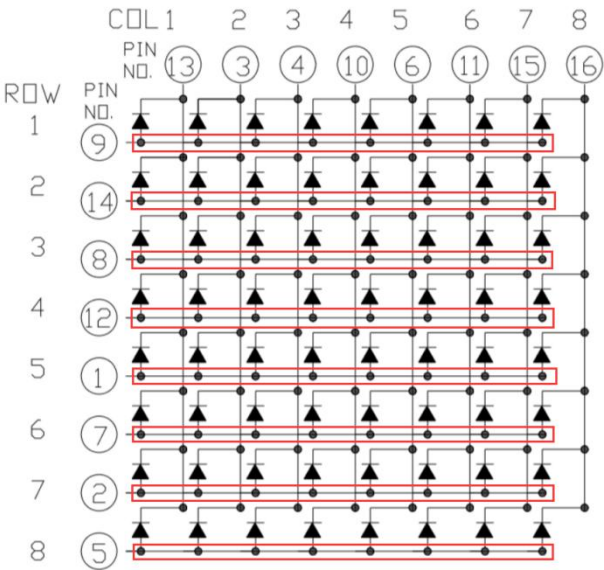

figure 2
- 2) The common anode and common cathode that most sellers refer to should be the row common anode and row common cathode, as shown in the figure 2 below - common anode dot-matrix LED display